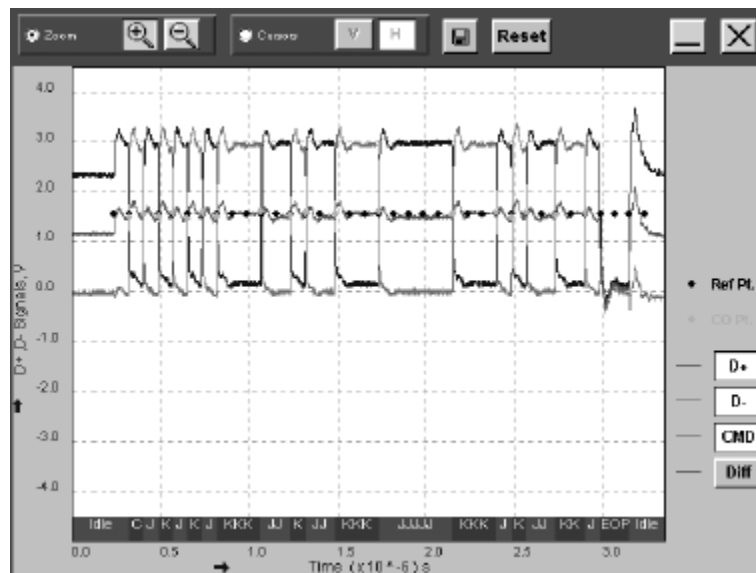

Figure 2-65: Waveform plot for full speed signal quality for downstream testing
- Click on the Waveform Plot option to view the annotated waveform plot. Figure 2-65 shows the corresponding waveform plot.